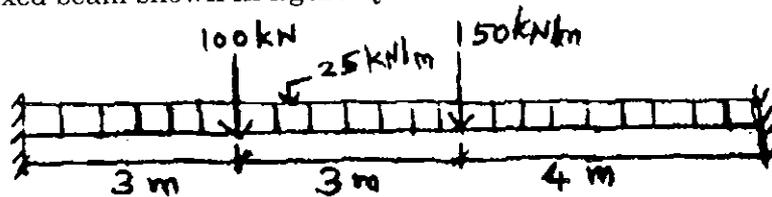

Fig. Q 12.a
12. (a) Calculate the moment and reaction developed at fixed supports of the fixed beam shown in figure Q 12 a.
- (b) Compute the moment and reaction developed at each support of the continuous beam shown in figure Q 12 b.
Fig. Q 12 b